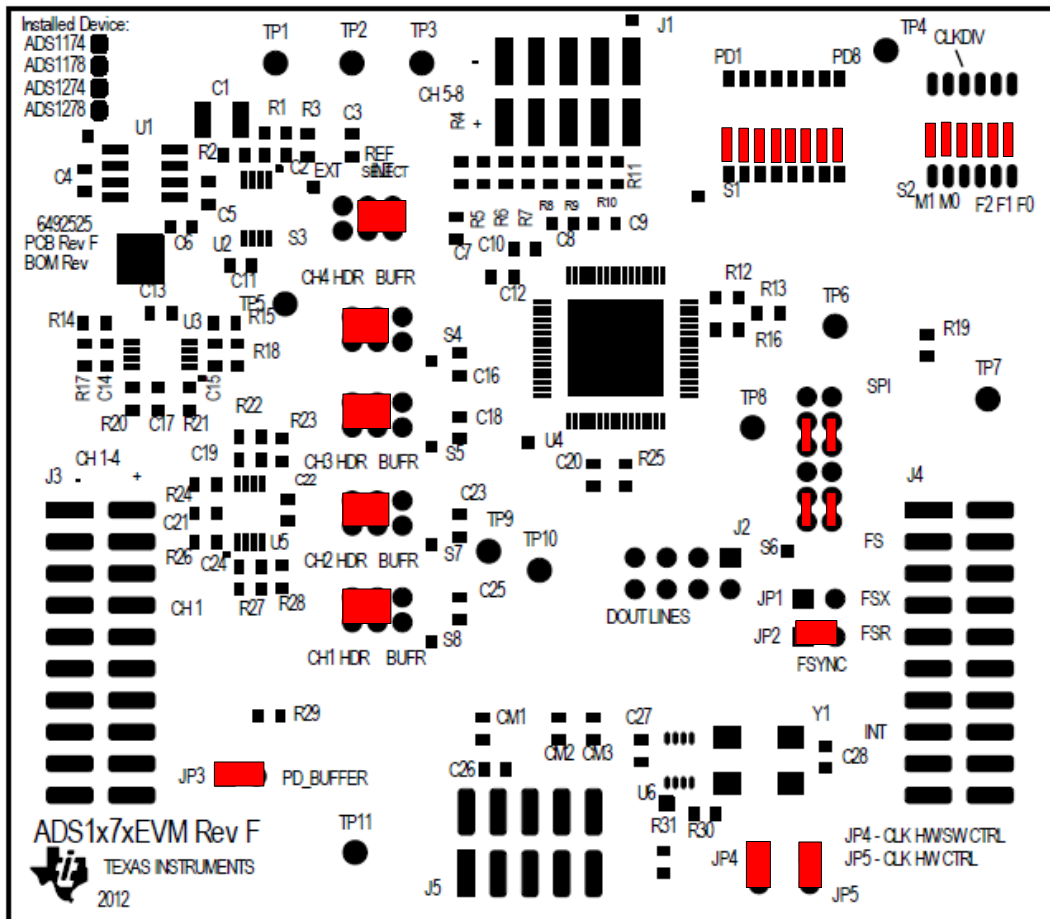

Figure 1. ADS1x7xEVM Default Jumper Locations
Figure 1 shows the jumpers found on the EVM and the respective factory default conditions for each.
1. Verify the jumpers on the ADS1x7xEVM are as shown in Figure 1 (note that these settings are the factory-configured settings for the EVM).